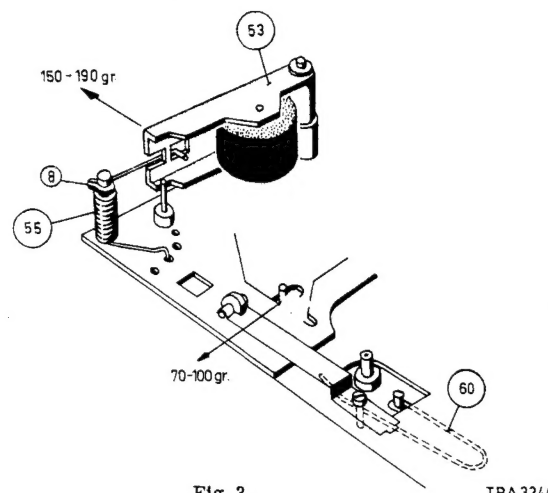

Fig. 3
##### Pressure roller lever (Fig. 3)
##### Checking the winding friction 63 (Fig. 3)
- If the current increase is less than 8 mA, the pressure of the pulley of idler bracket 63 onto the right-hand turntable must be reduced to min. 70 grammes (see Fig. 3).